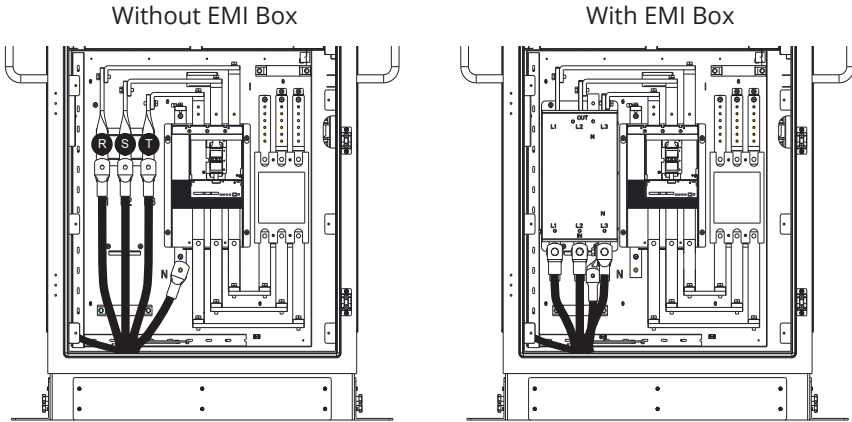

Figure 20. Cable Connection
3) Connect AC cables L1, L2, L3 and N to the busbars (See Figure 20). Attach each wire and torque the fasteners according to "Appendix 2 - Torque Requirements Table".